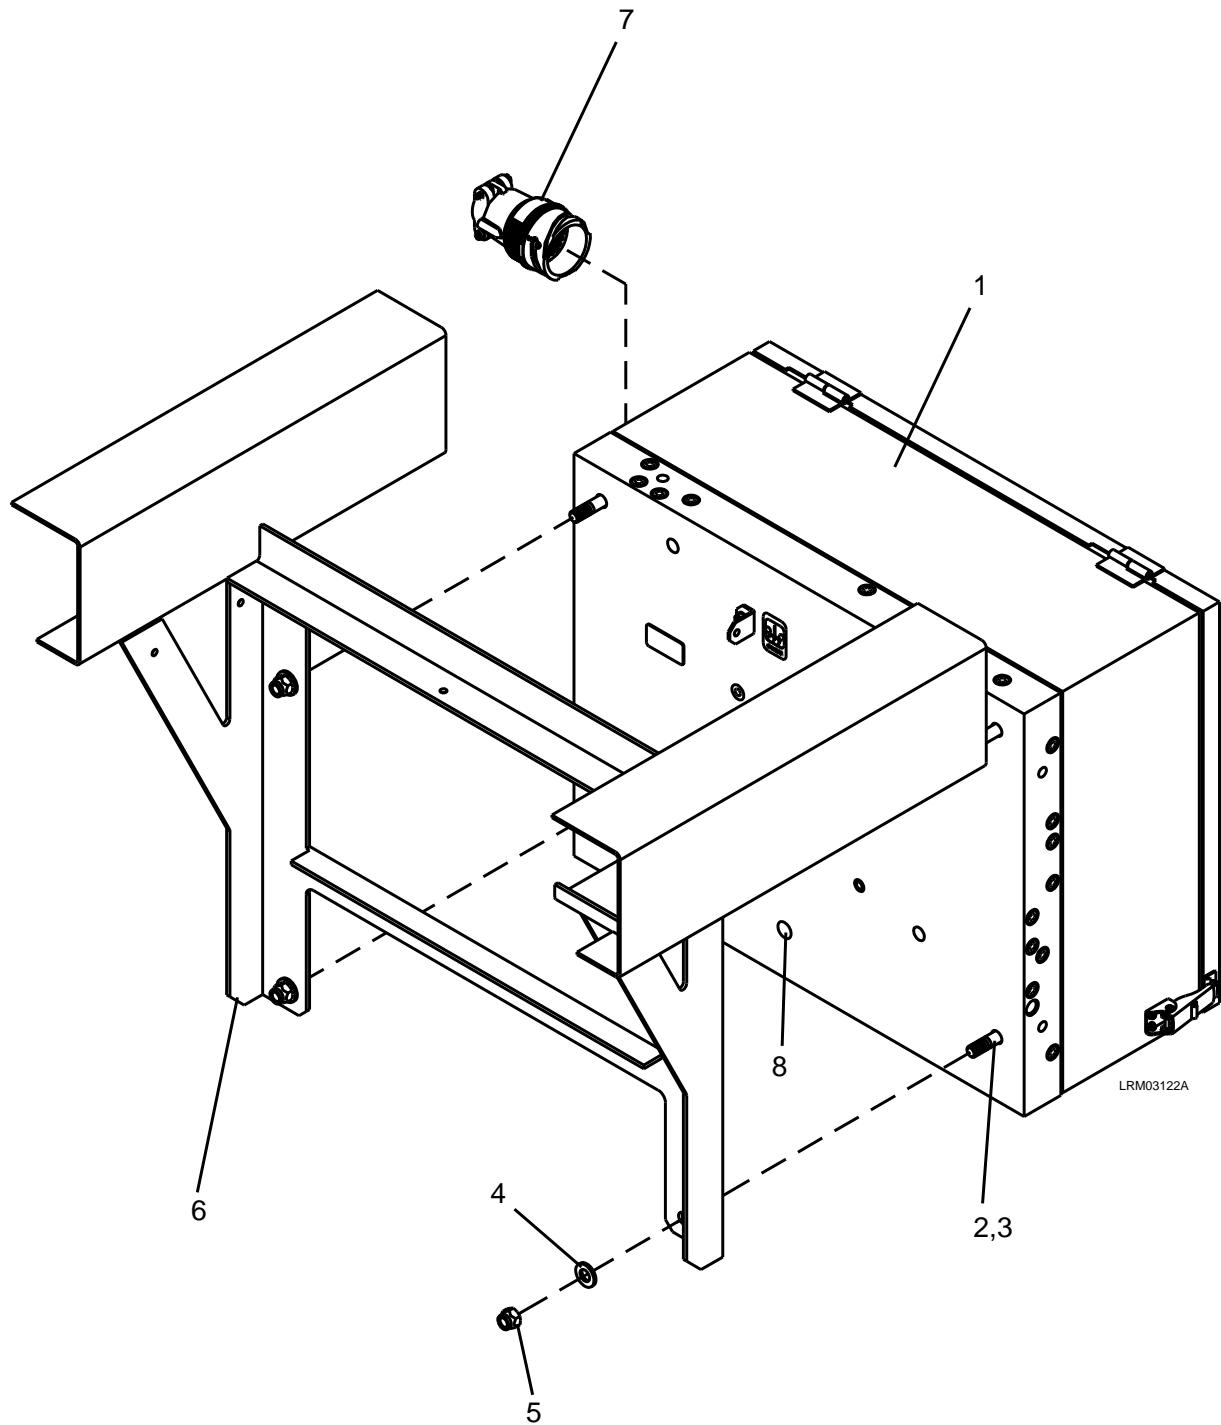

Figure 7-108: Brake Control Unit (Motor Truck)
2. Disconnect the electrical connector (7) to the Brake Control Unit (1). See Figure 7-108.